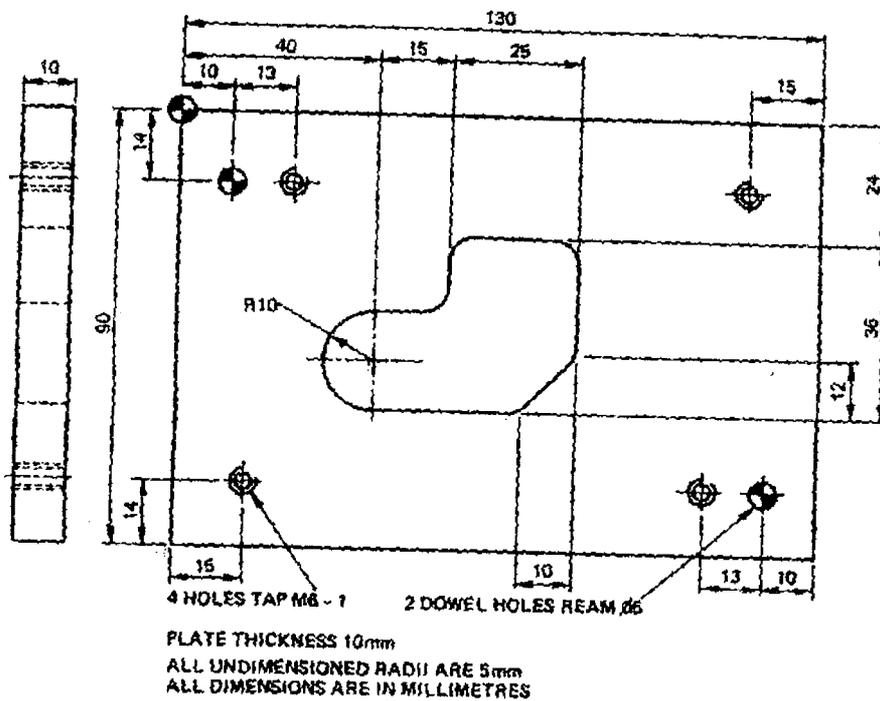

Fig. 14 (b)
- (b) The component shown in Fig.14 (b) is to be machined from a low – carbon steel plate which is approximately 2 mm oversize on the profile and has been previously machined to produce the two locating dowel holes, and the clamping hole. It is held in a fixture which locates and clamps the component.